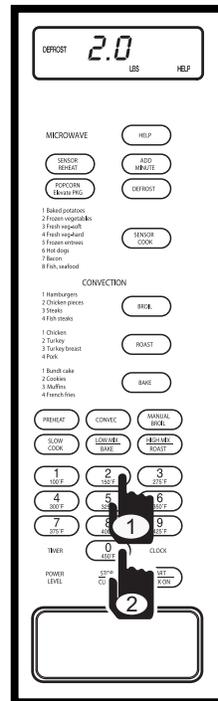

Figure 3-53.
3. Enter weight of the food being defrosted. For example: press the number 2 key, and number 0 key for 2.0 pounds (See Figure 3-53). After weight is entered, display will flash “2.0 - PRESS - START “.